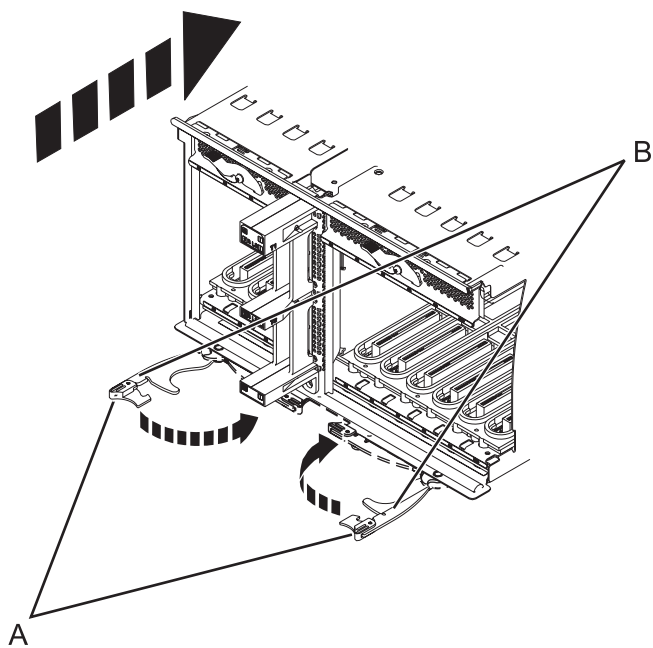

Figure 70. Install the I/O system board on a rack-mounted model
- Insert the I/O system board firmly into the server, as shown in Figure 70 on page 88.
- Secure the I/O system board with the locking tabs (A), as shown in Figure 70 on page 88.